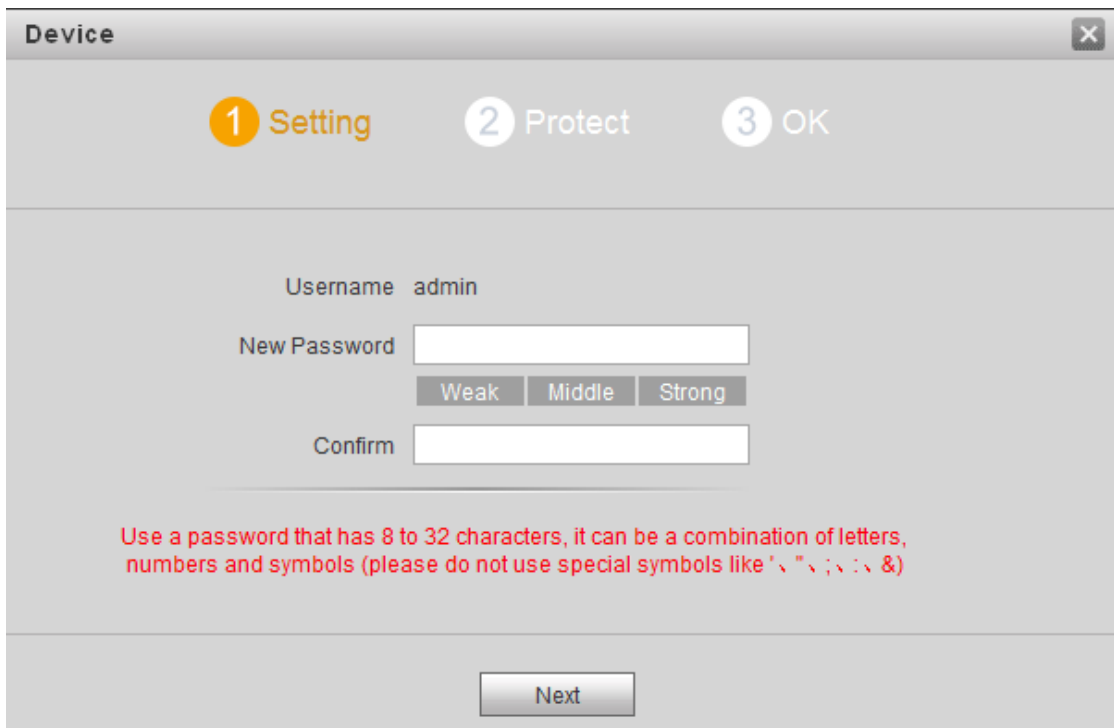

Figure 2-5
Step 1 Power on the device, and enter default IP address of VTO at the address bar of PC browser. The system displays “Setting” interface, as shown in Figure 2-5.